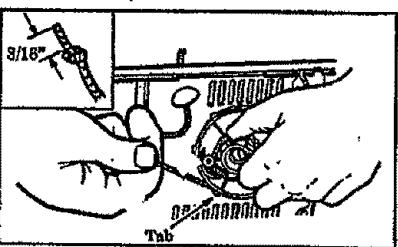

Figure 40
- Insert one end of the rope through the Handle and secure with a knot. Leave a  $3/16$ " pigtail behind the knot. Figure 40 (Inset—upper left).
- Pull out 10 inches of rope. Catch the rope on one of the tabs on the pulley. Figure 40.